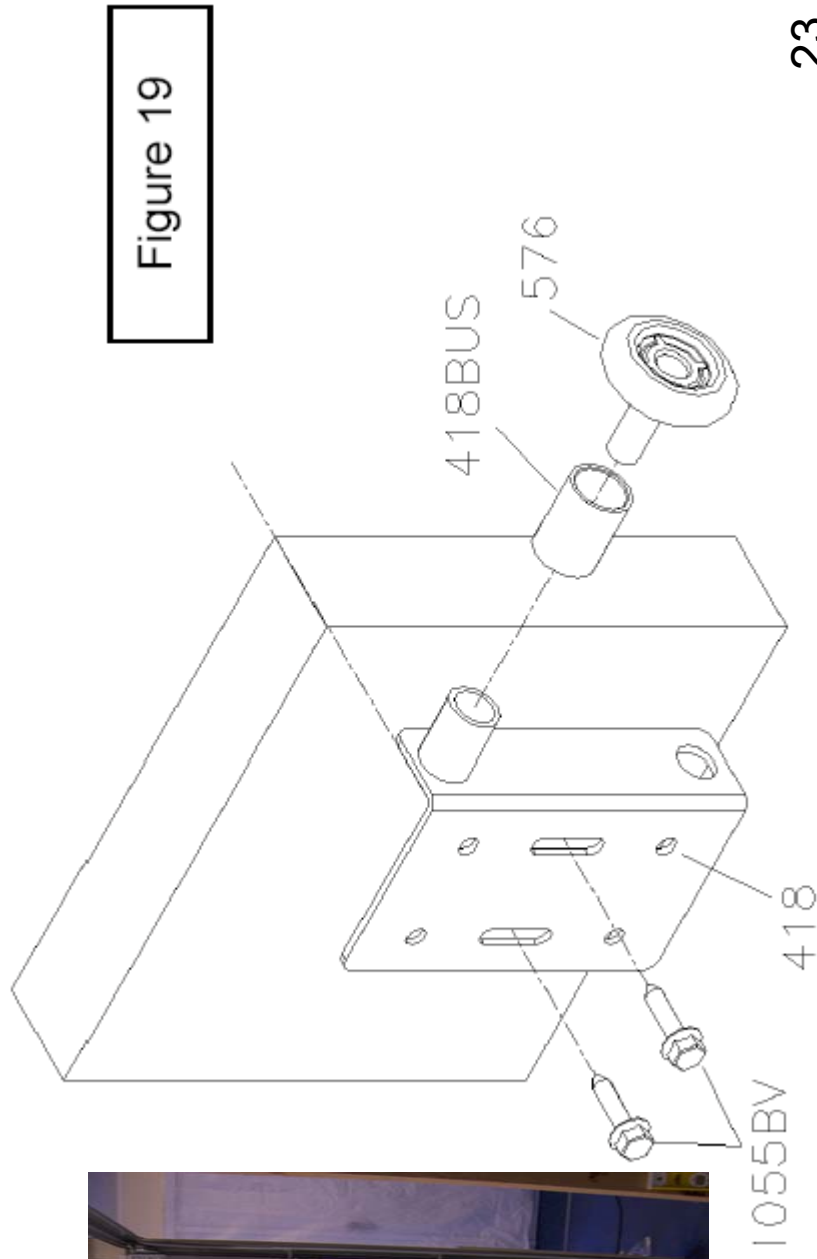

Figure 19
Slide the plastic bush (418BUS) over the bush of the top roller holder (418LH/RH). Then slide the shaft of the bearing roller (576) into the bush of the top roller holder (Figure 19).